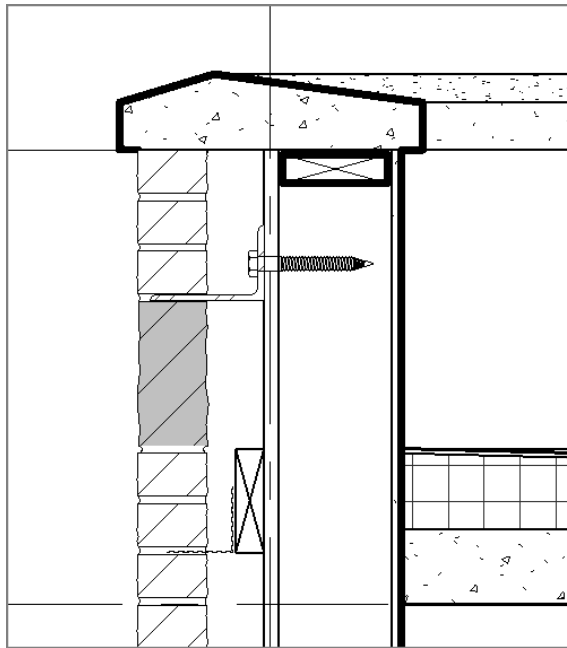

FIGURE 12.39: Rotating the blocking after copying it
6. Copy the blocking down to double it, as shown in Figure 12.39.